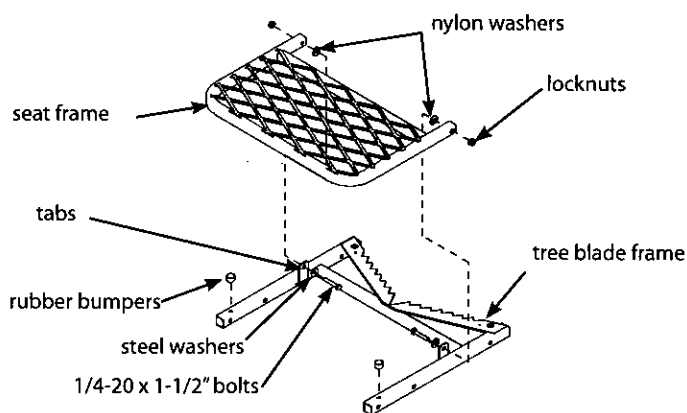

Figure 2B
3. Attach seat frame (1ML15) to the tabs on the tree blade frame using (2) provided 1/4-20 x 1-1/2" bolts, locknuts, nylon washers and (4) steel washers. **SEE FIGURE 2B.** Attach the (2) provided rubber bumper stops to top side of tree blade frame by pressing in to provided holes. **SEE FIGURE 2B.**